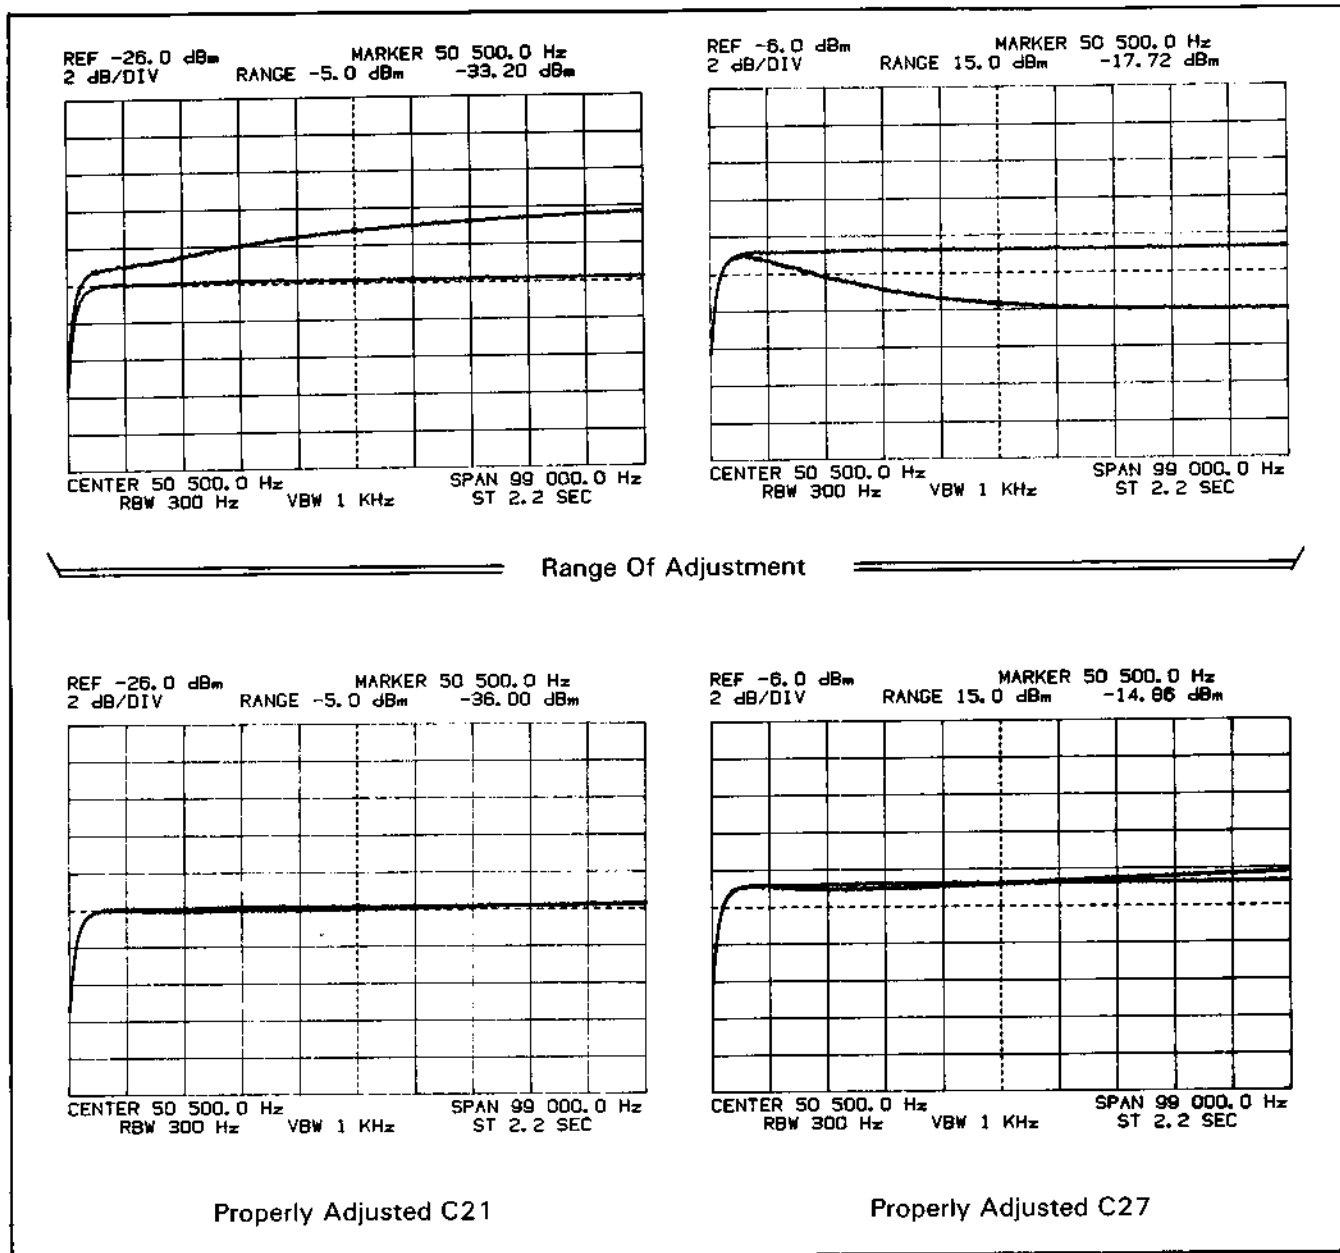

Figure 5-42. 1MΩ Low Frequency Flatness Adjustment
- j. Adjust A1C21 so that the A trace overlaps the B trace as closely as possible (see Figure 5-42).